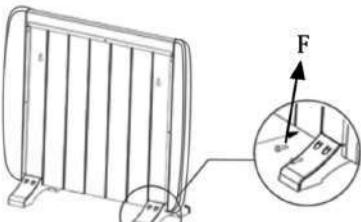

Figure 12
- Screw the two feet to the lower rear part of the heater with the four screws provided (F), 2 screws per foot. (Figure 12)